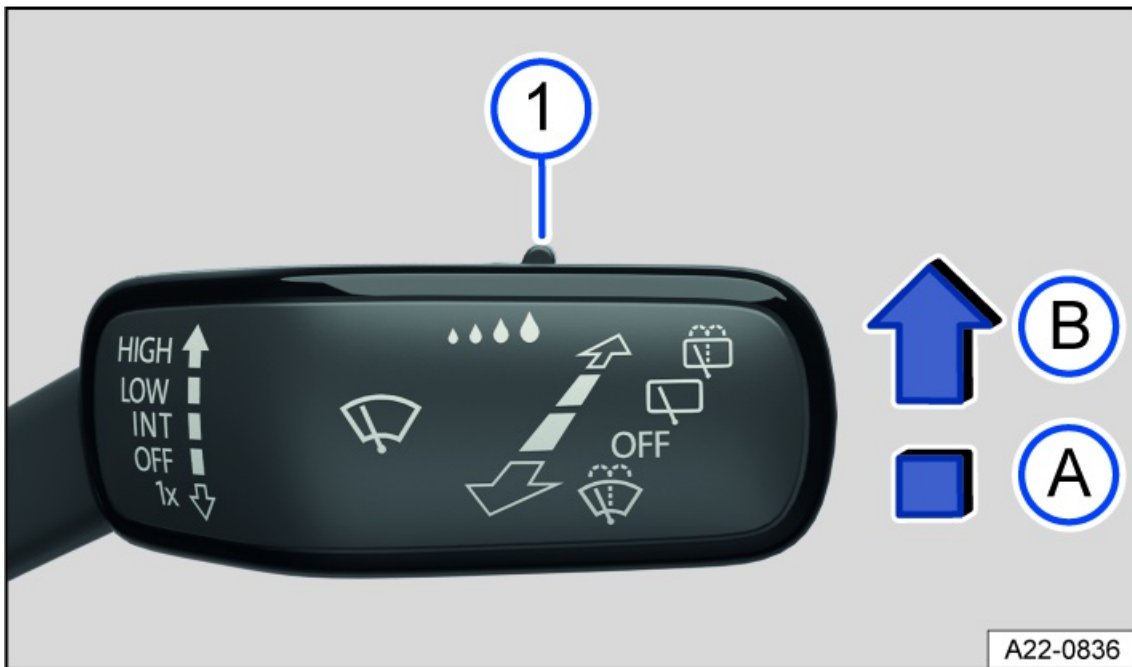

Fig. 84 On the right side of the steering column: windshield wiper lever.
1. Press the lever into the desired position *fig. 84*.
The sensitivity of the rain/light sensor can be manually adjusted with the switch in the windshield wiper lever *fig. 84*, ⇒ ⚠.